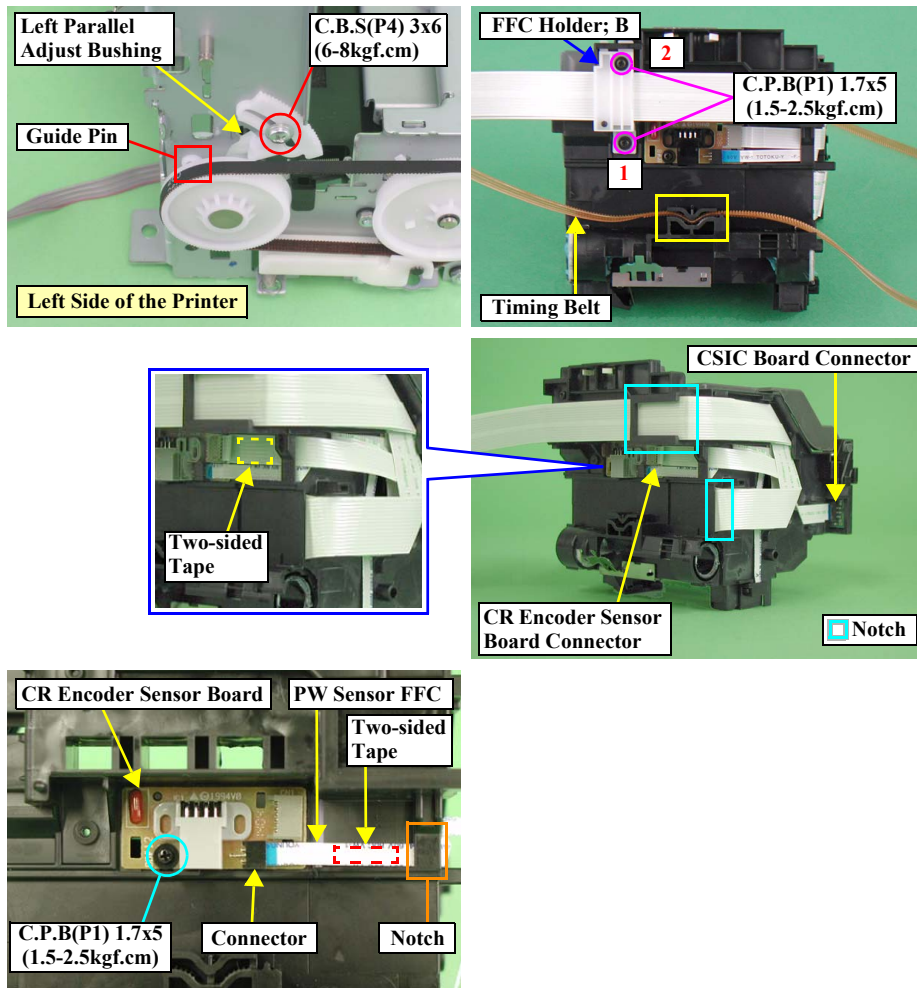

Figure 2-71. Removing the Carriage Unit (3)
2. Pull out the PW Sensor FFC through the notch (□ See Figure 2-71.) of the Carriage Unit, and disconnect the FFC from the PW Sensor Board, then remove it together with the PW Sensor Board.
- Tighten the screws in the order shown in Figure 2-71.